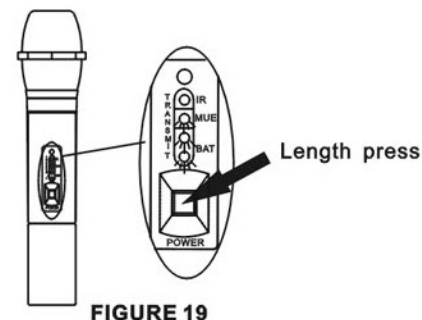

FIGURE 19
1. Length press(2-3 seconds) the POWER button of the transmitter. the IR MUE BAT light, the transmitter enter adjusting code and transport the RF signal(Figure 19).